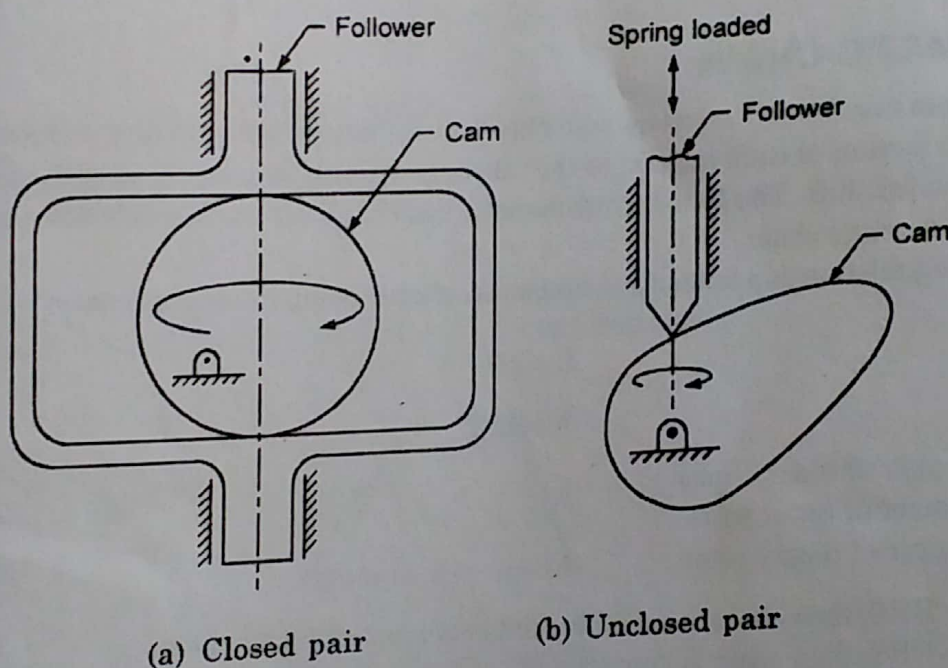

Fig.1.5 Closed and unclosed pairs
- *Closed pair*: When the two elements of a pair are held together mechanically in such a manner that only the required type of relative motion occurs, they are called a closed pair. All lower pairs and some higher pairs (e.g. enclosed cam and follower) are closed pairs (Fig.1.5(a)).
- *Unclosed pair*: When the two elements of a pair are not held mechanically and are held in contact by the action of external forces, are called unclosed pair, e.g. cam and spring loaded follower pair (Fig.1.5(b)).